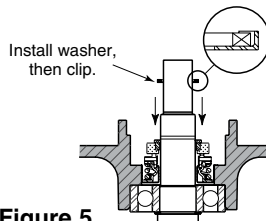

Figure 5
5. Reinstall washer and snap ring on shaft. See Figure 5.